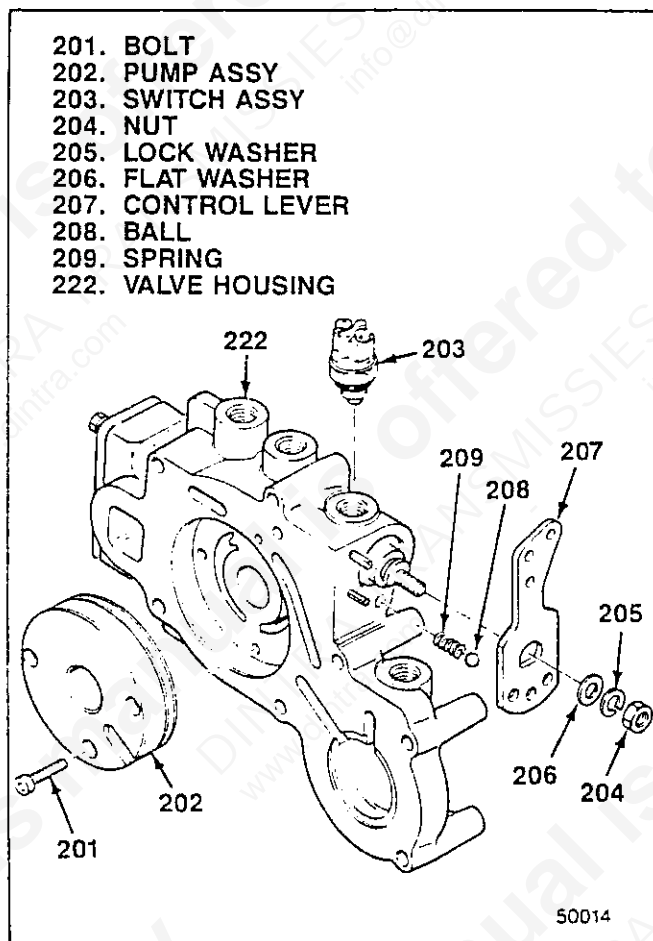

Figure 5-10. Control Lever, Switch and Pump
5-14. CONTROL LEVER, SWITCH AND PUMP ASSEMBLY. With control valve installed in valve housing, proceed as follows (see figure 5-10):
1. Temporarily install control lever (207) on control valve previously installed, aligning flats. Turn lever and valve up to installed position as shown in figure 5-10. Remove control lever.
2. Install spring (209), ball (208) and control lever (207). Holding control lever in place, install flat washer (206), lock washer (205) and nut (204). Holding lever, torque nut to 14-16 lb-ft (19-22 Nm).
3. Install switch assembly (203). Torque switch assembly to 20-25 lb-ft (27-34 Nm).
4. Position pump assembly (202) in valve housing (222) with counterbored holes for bolt head out. Align all three bolt holes and install bolts (201). Torque bolts to 6-8 lb-ft (8-11 Nm).